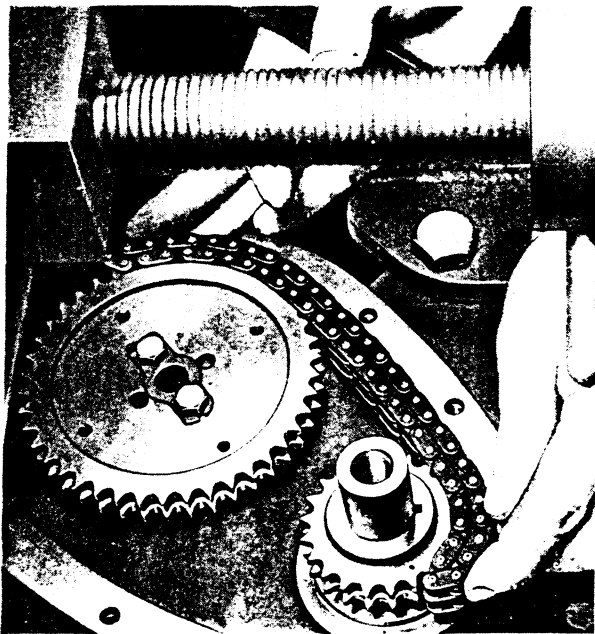

FIG. 27
9. Still without altering position of camshaft, mount sprocket with set screws finger tight and apply chain as shown in Fig. 27. The chain, located on crankshaft sprocket, should engage at least 4 teeth on camshaft sprocket with no slackness. Reversal of sprocket provides four alternative positions on camshaft, giving a location variable by $\frac{1}{4}$ tooth. The drillings in camshaft sprocket are located so that 90° movement will give $\frac{1}{2}$ tooth adjustment, while reversal of sprocket will give a further $\frac{1}{4}$ tooth adjustment in either direction.